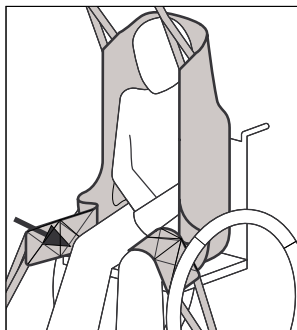

Figure 2
4. Pass the leg support towards the front of the chair to each side of the thigh and then pass each leg support under each thigh. **Figure 2.**